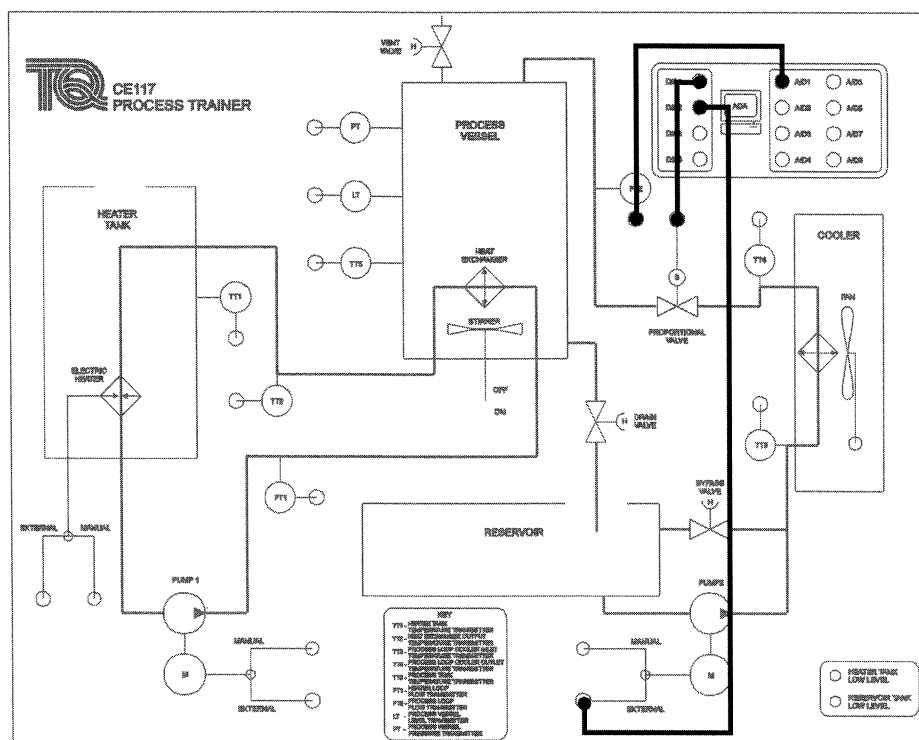

Figure 58 Connections for Experiment 3 Procedure 2
- 3) Connect the CE117 Mimic Panel as shown in Figure 58. Set Pump 2 switch to 'External'. Analogue signals will pass from the ADA section to Pump 2, the proportional valve (S) and from flow transmitter (FT2).